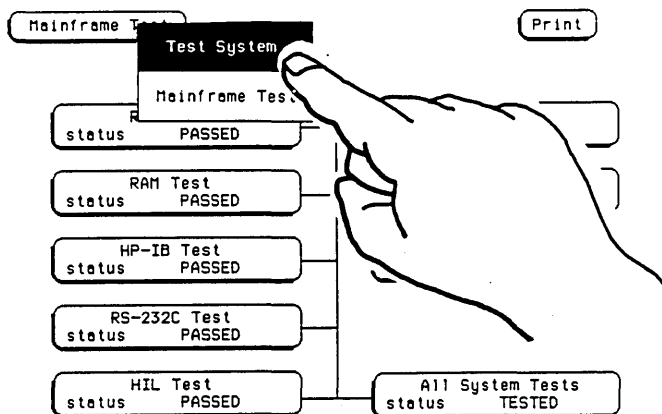

Figure 6-14. Exiting the Mainframe Test System
- b. Select the **Mainframe Test** field and the **Test System** field from the pop-up menu (see figure 6-14). The Test System Configuration will be redisplayed.